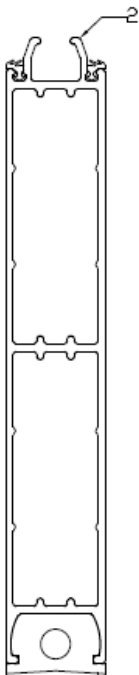

Figure 15
- Step 1: Remove the log from the frame (See Figure 15, part#2).